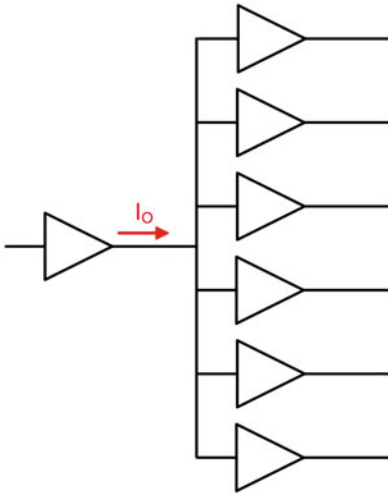

Fig. 3.39
- 3.4.1** In the driver configuration shown in Fig. 3.39, the buffer is driving its maximum fan-out specification of 6. The maximum input current for this logic family is $I_i = 1 \text{ nA}$. What is the maximum output current (I_o) that the driver will need to source?
- 3.4.2** In the driver configuration shown in Fig. 3.39, the buffer is driving its maximum fan-out specification of 6. The maximum input current for this logic family is $I_i = 4 \text{ nA}$. What is the maximum output current (I_o) that the driver will need to source?